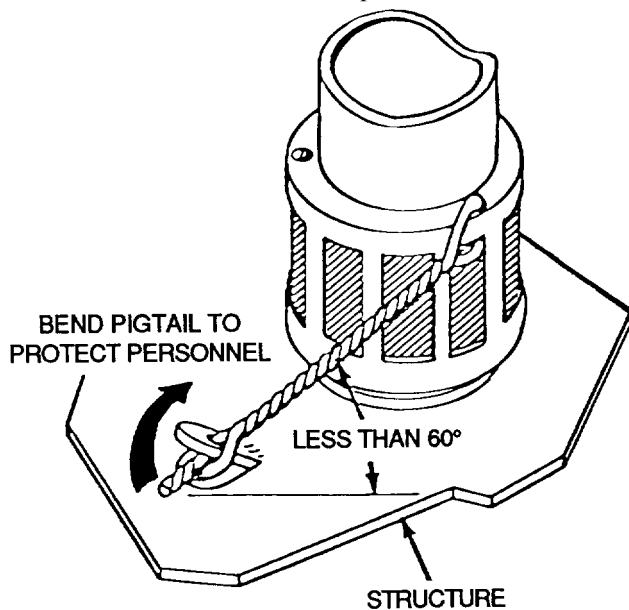

Figure 7. Lockwiring Connector to Structure
18. **No Provision.** Connectors mated to a receptacle with no lockwire provision shall be lockwired to a hole. If no provisions are made, contact CFA for guidance. (Figure 7).
be safety wired to structure (Figure 7). If no provisions are made, refer to paragraph 18.